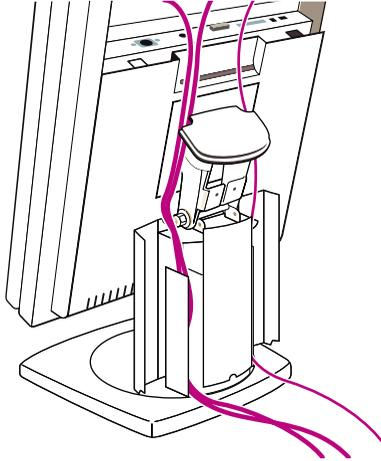

Figure 27: Display rear view
2. Route the cables alongside the neck and in the cable ducts in the tilt & swivel foot. See figure 27 above.